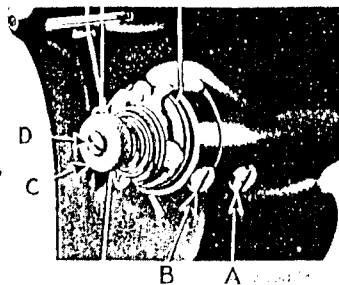

Fig. 14. Adjustments of Thread Controller
For more controller action on the thread, loosen the stop screw (B, Fig. 14) at the right of the tension and set the stop lower, and for less action, set the stop higher.
To strengthen the action of the controller spring on the thread, loosen the tension stud screw (A, Fig. 14) at the right of the stop screw and turn the tension stud (D, Fig. 14) slightly to the left with a screwdriver, or to lighten its action on the thread, turn the tension stud (D) to the right and tighten the tension stud screw (A).